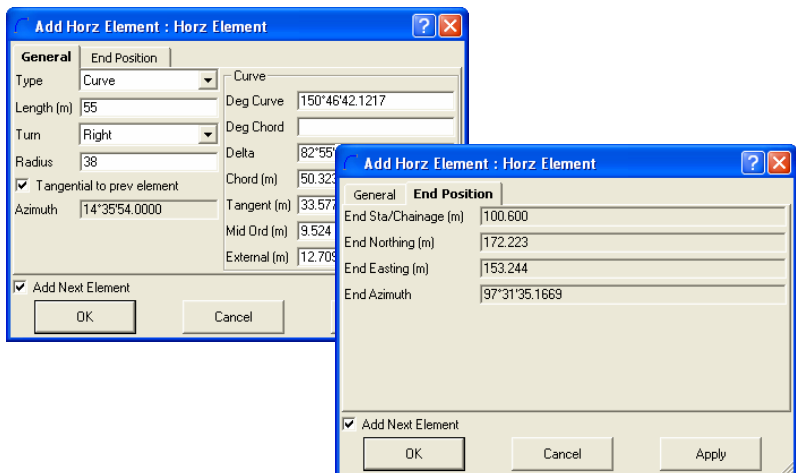

Figure 9-37. Add Horiz. Element: Curve dialog box. General and End Position Tabs
- To add a curve, click **Add Horz Element** and select **Curve** in the *Type* field of the **Add Horz Element** dialog box (Figure 9-37).
3. Enter the following parameters for the curve (Figure 9-37 on page 9-21):